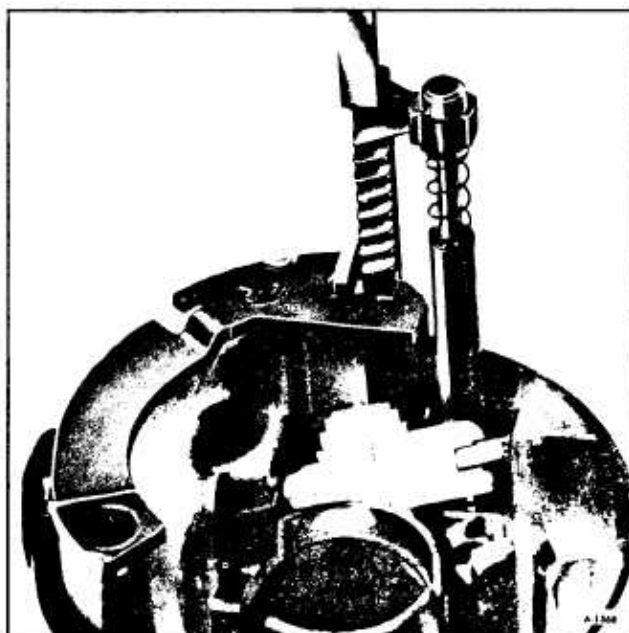

Figure 86—Installing Rack and Lock Bolt
5. Insert the rack and lock bolt into the housing from the bottom with the teeth up (toward hand-wheel) and toward the centerline of the column. (figure 86).